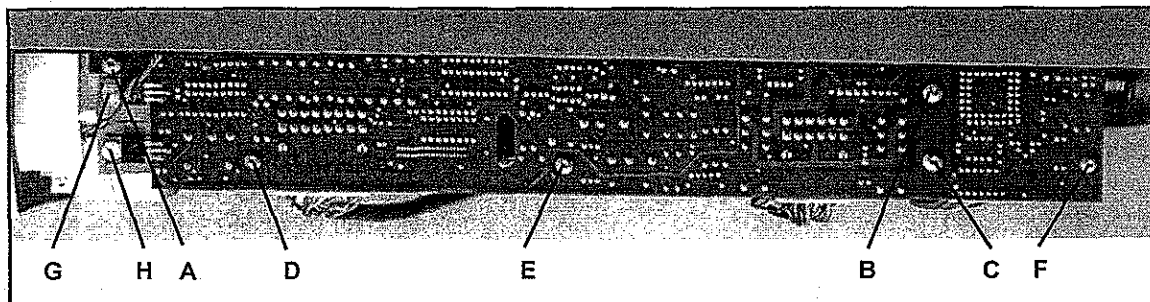

Figure 4-1e: Injector's Main PCB
Refer to Figure 4-1e.
8. Use the 3/32" balldriver to remove the three (3) button-head screws labeled A, B, and C in Figure 4-1e.
9. Use the 5/64" balldriver to remove the three (3) button-head screws labeled D, E, and F.